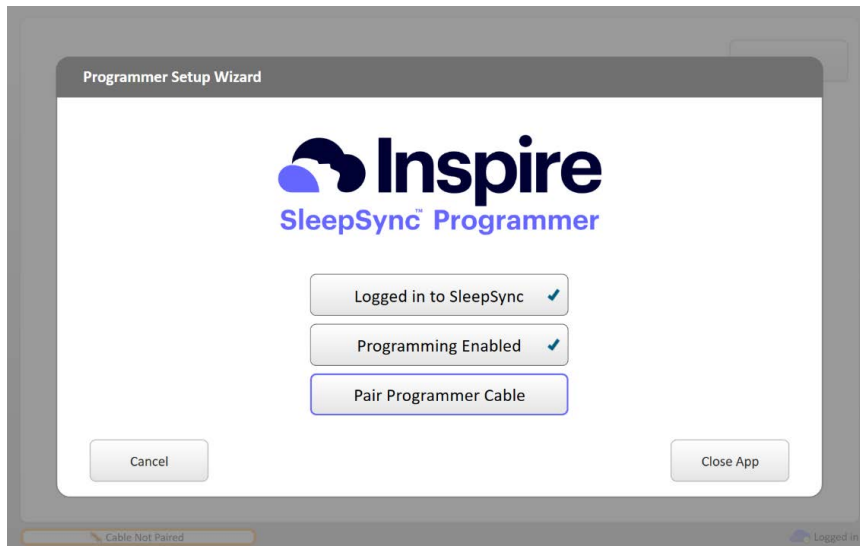

Figure 3-7. Setup Wizard Pair Programmer Cable Button
- a. The **Pair Programmer Cable** button becomes active (Figure 3-7). Select the **Pair Programmer Cable** button to continue.